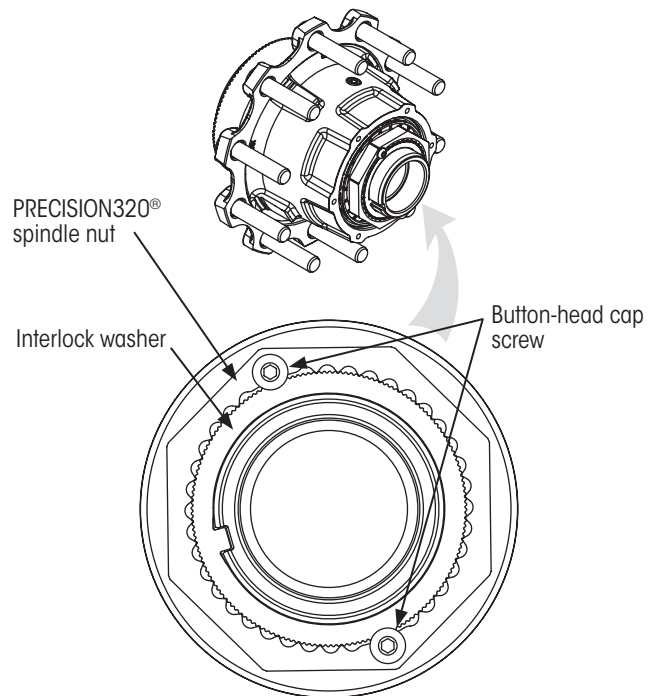

Figure 7: Button-head cap screw on PRECISION320® nut system
4. Using a hex key (TOOLS REQUIRED on page 6), **remove** button-head cap screws from interlock washer Figure 7.